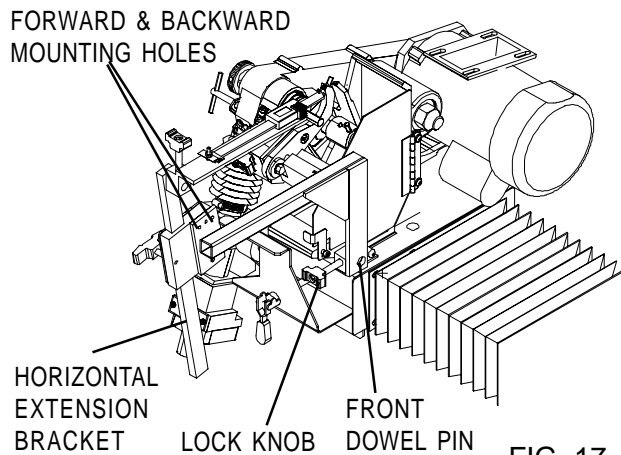

FIG. 17
Install the horizontal extension bracket onto the carriage front dowel pin and lock in place with knob. See FIG. 17.
**NOTE:** The horizontal extension bracket is vertically adjustable so the digital gage can be positioned to avoid reel frame members, etc. The mounting of the vertical slide to the horizontal weldment has two additional mounting holes so the vertical slide can be tipped forward or back, again to avoid reel frame members, etc. See FIG. 17.